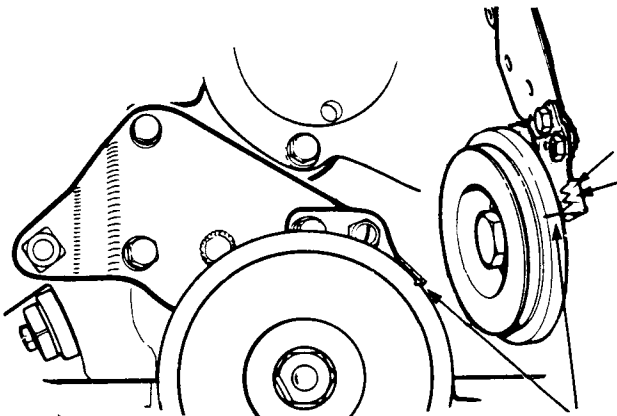

Fig D3.3
- (3) Refer to Fig D3.3. Rotate the crankshaft in the engine run direction until the mark (1) on the crankshaft pulley is approximately  $20^{\circ}$  before the correct setting for TDC.
- (4) Carefully rotate the crankshaft further until the lamp just comes on. If the timing is correct the crankshaft pulley mark will now be opposite the setting for  $12^{\circ}$  BTDC.